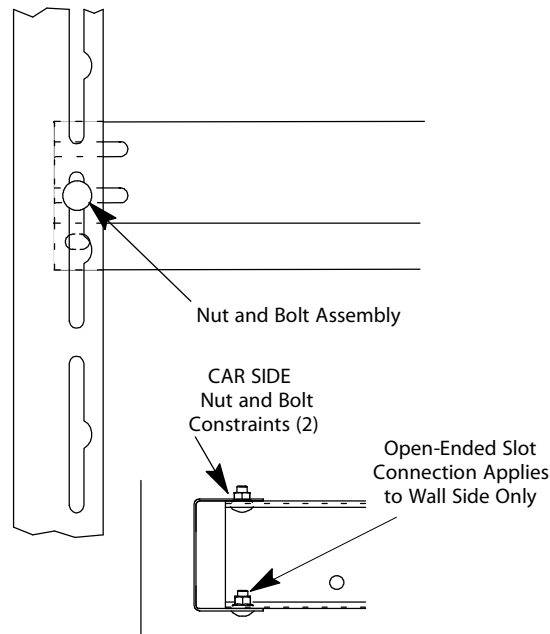

Figure 7 - Captured Sill Support
Note: Two (2) nut and bolt constraints must be used on the car side for a total of three (3) constraints for each side of the sill support. See Figure 7.